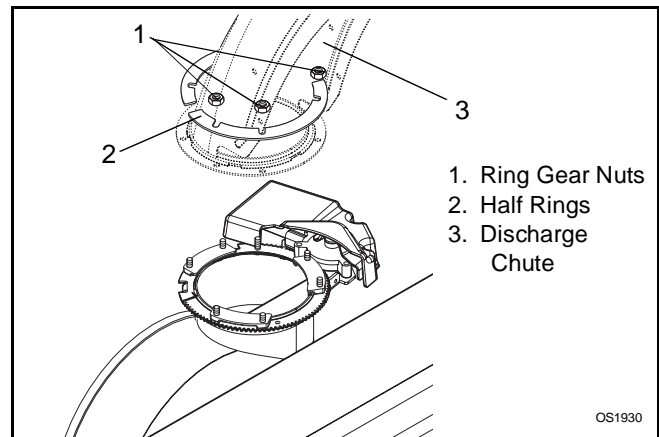

Figure 28
2. Remove the six nuts from ring gear (Figure 28).